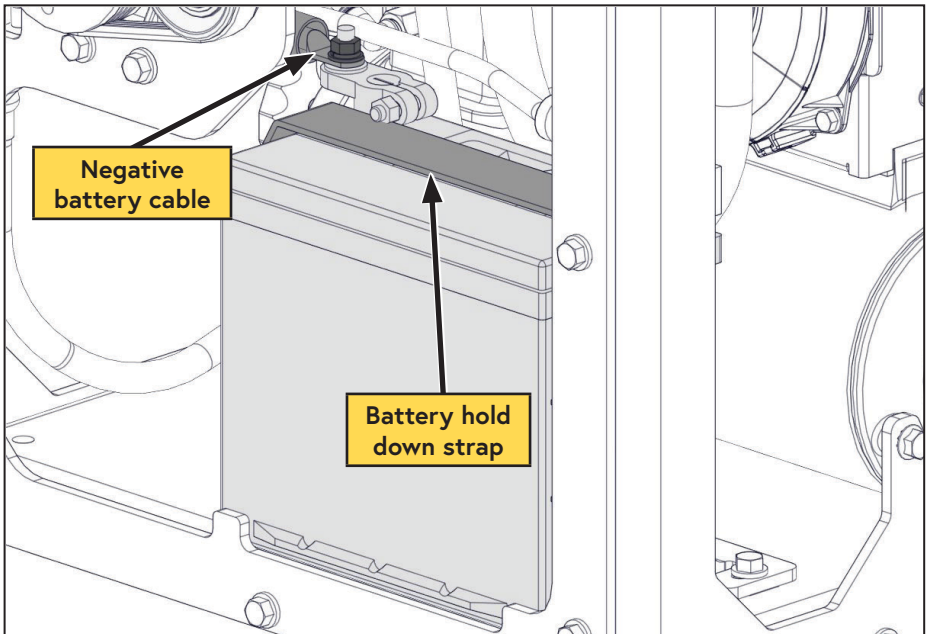

Figure 61 — Remove battery
- Disconnect the negative battery cable (Figure 61).
- Disconnect the positive battery cable (Figure 61).
- Undo the battery hold down strap (Figure 61).